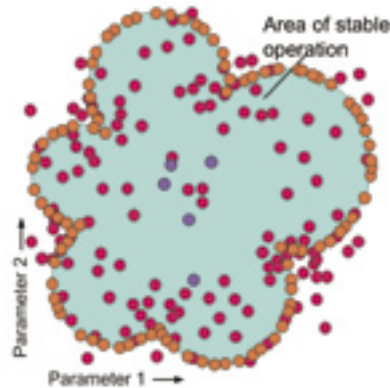

Figure 1: Area of stable and robust network operation (here example of two-dimensional parameter space)
- ▶ Simulation allows corner cases to be investigated, normally very difficult to access under laboratory conditions (see figure 1)